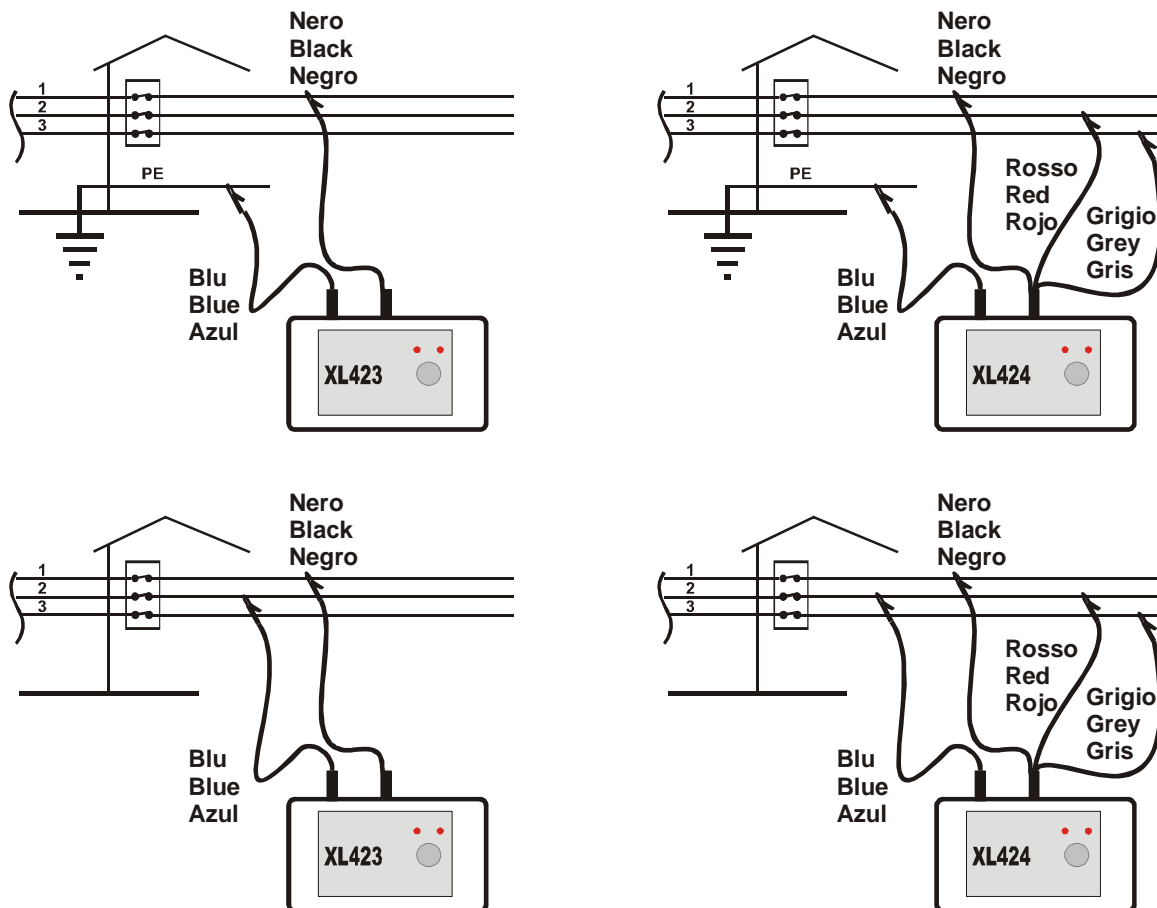

Fig. 4: Instrument's connection in Three Phase 3-wires plant – Possible cases
3. Connecting alligator clips in the plant as indicated in Fig. 4.